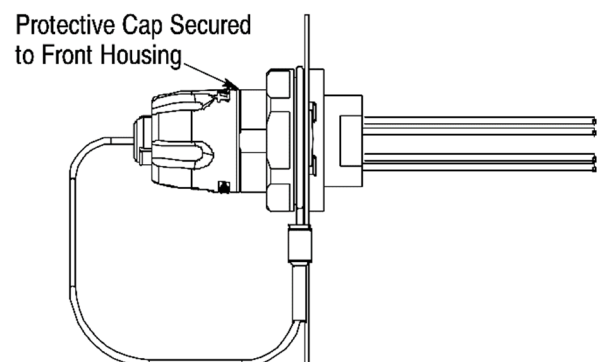

Figure 16
2. Install the connector through the back of the panel so that the O-ring on the shoulder of the D-hole housing is flat against the panel. See Figure 16, Detail A.
3. Thread the panel nut onto the D-hole housing. See Figure 16, Detail B. Tighten the panel nut to a torque of approximately 40 N-m. When the panel nut is secure, the O-ring should be compressed.
4. Thread the protective cap onto the front housing, then hand-tighten the protective cap as shown in Figure 16, Detail C.